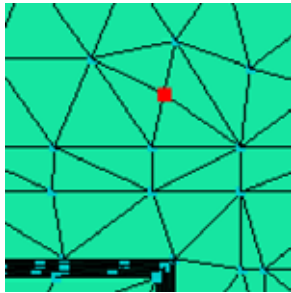

Figure 164: Inserted node
- The inserted node is shown in Figure 164.